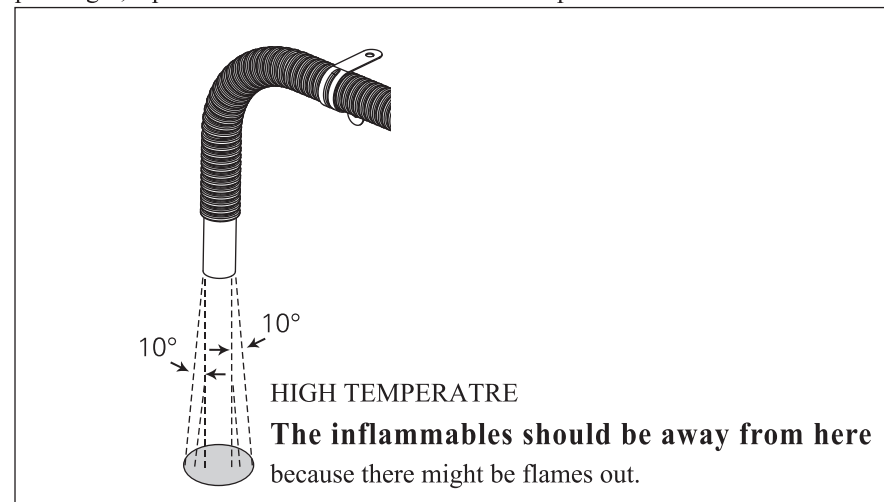

Fig. 29
4.6.6 - When the heater is running, the exhaust pipe is at high temperature. During installation, make sure to install the pipe in the far distance from the plastic parts or other objects with the poor thermal resistance of the vehicle body. The exhaust pipe shall be properly fixed. The exhaust vent shall be downwards, perpendicular to road surface with an angle of $90^\circ \pm 10^\circ$. To ensure such an angle, the fixing clamp for the exhaust pipe shall be within 150mm from the pipe end. (Fig. 29)